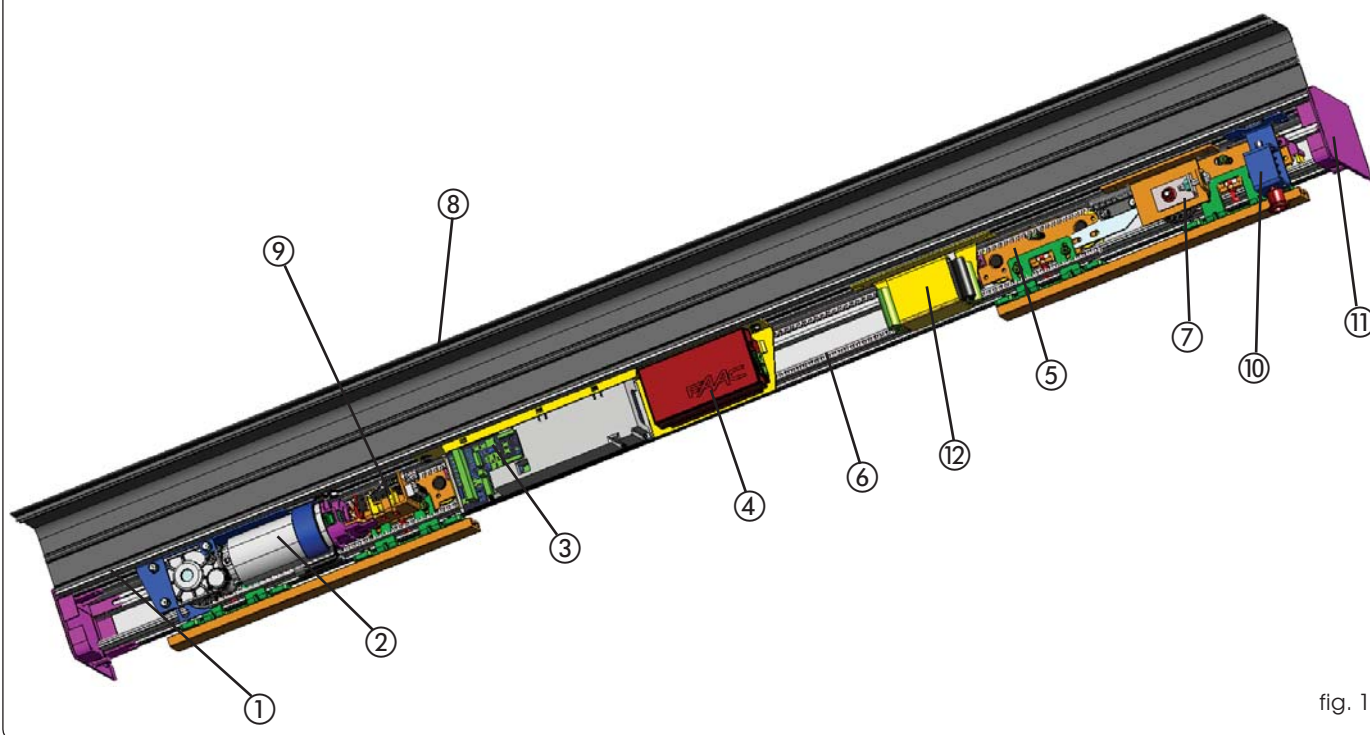

fig. 1
An automation cross beam (fig.1) consists of the following parts:
### Support profile (fig.1 ref.①)
### Motor unit (fig. 1 ref.②)
#### Control unit (fig. 1 ref. ③)
#### Power feed unit (fig. 1 ref. ④)
#### Leaf support carriages (fig.1 ref.⑤)
#### Drive belt (fig. 1 ref. ⑥)
#### Transmission pulley unit (fig. 1 ref. ⑦)
### Closing housings (fig. 1 ref. ⑧)
This is the aluminium profile enabling closure of the automated system. The side panels (fig.1 ref.⑪) completely close the system.
### Motor lock unit (fig. 1 ref. ⑨)
The motor lock unit is supplied with the internal release device (Fig.1 ref.⑩) used for emergency opening if needed. It is also designed for installation of the external release (optional) if required. The motor lock unit acts directly on the motor, locking it mechanically.
### Emergency battery (fig. 1 ref. ⑫)